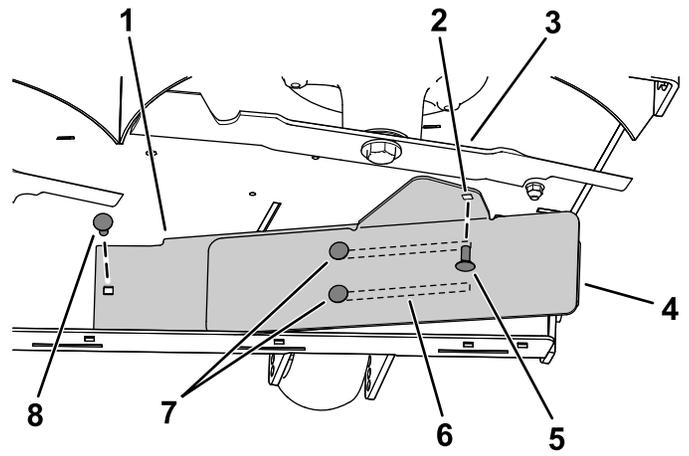

Figure 10
- Install the left side of the baffle using a carriage bolt (5/16 x 3/4 inch) and flange nut (5/16 inch) as shown in Figure 10.
- Loosen the 2 carriage bolts (5/16 x 3/4 inch) in the baffle slots, and slide the baffle until the hole aligns with the hole in the mower deck (Figure 10).
- Install baffle as shown in Figure 10.
- Tighten the 2 carriage bolts (5/16 x 3/4 inch) in the baffle slots (Figure 10).